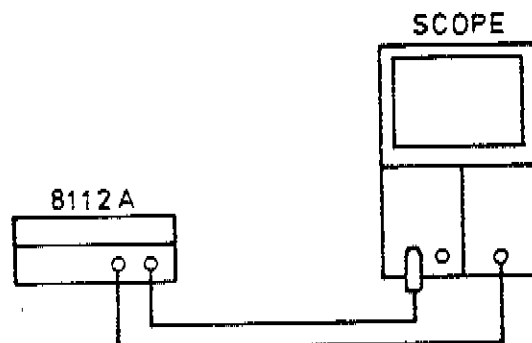

Figure 4-3. Equipment setup for DBL performance test.
1. Connect the equipment as shown in Fig. 4-3.